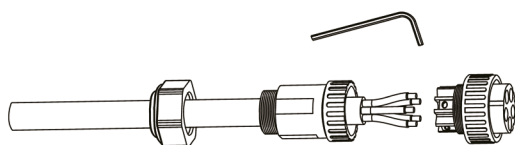

Fig. 35. Inserting the bare wire into the terminal.
- d. Insert the stripped end of the three cables into the corresponding hole of the terminal head (yellow-green cable into the PE port, phase into the L port and neutral into the N port). Pull from the cable to check that it is properly connected, as shown in Fig. 35: